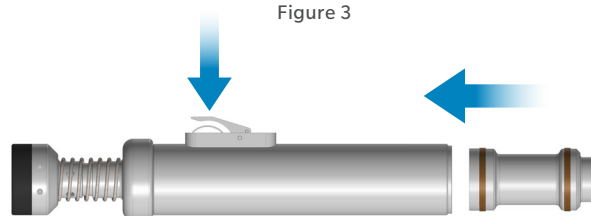

Figure 4
3. Assemble the sub-assembly with the hammer (4), by pushing down the button on the housing and the same time inserting the hammer (4) inside the housing (2) as shown on Figure 4.